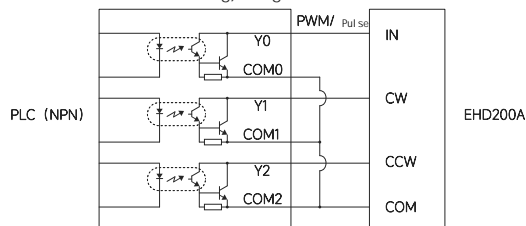

Figure1
- PWM duty cycle: The speed regulation can be controlled by outputting PWM signals through PLC and other host computers (NPN sink type)---Figure 1.
- Pulse frequency: The speed regulation (1HZ=1RPM) can be controlled by outputting a frequency signal from a host computer such as PLC (NPN drain type)--Figure 1.